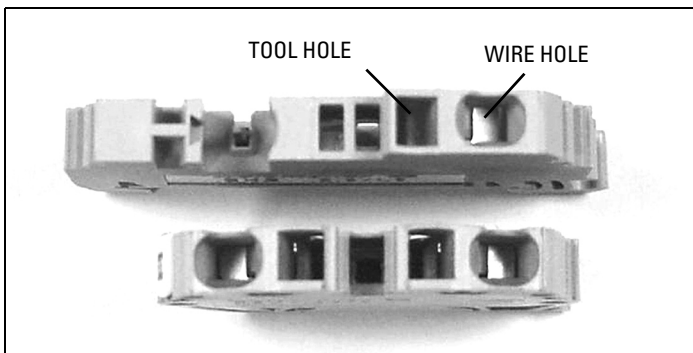

Figure 27. Tension Clamp Terminal Blocks.
Step 1: Figure 27 shows two tension clamp terminal blocks. There is a large one and small one, but the operation is the same for both. A small tool, such as a screwdriver, will be pushed into the square hole next to the wire hole and a wire will be inserted into the larger circular hole on the outer edge.